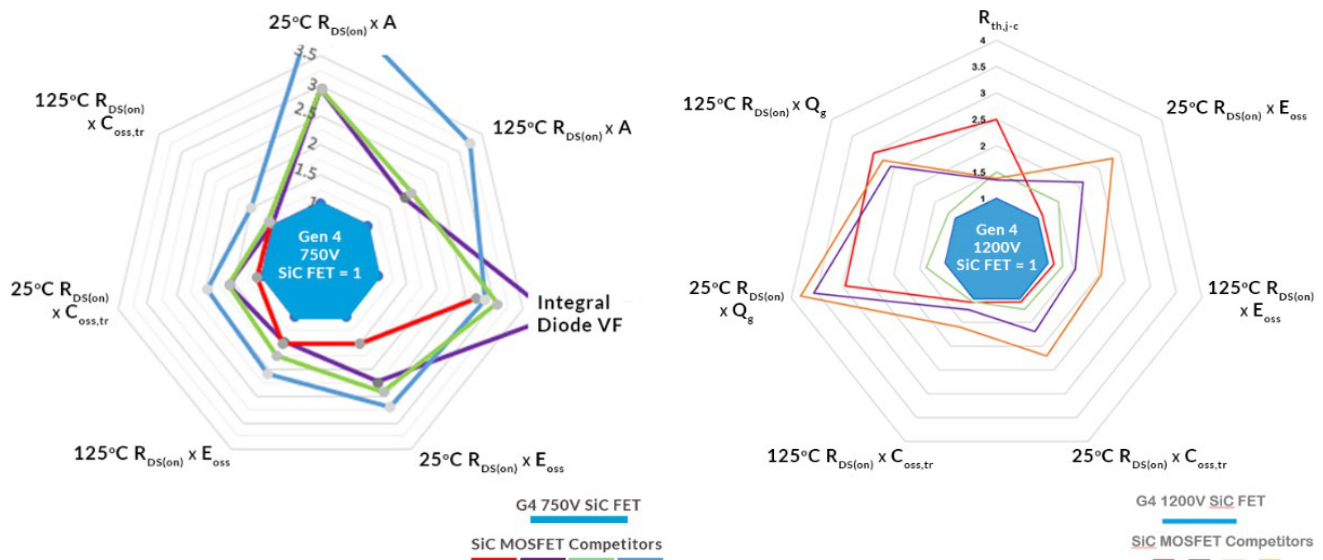

Figure 1. Figures of Merit Parameters Normalized to Gen 4 SiC JFETs (750 V is on the Left, 1200 V is on the Right)
Step 1	Measure the VDS turn-off oscillation frequency (f_0). See Figure 1.